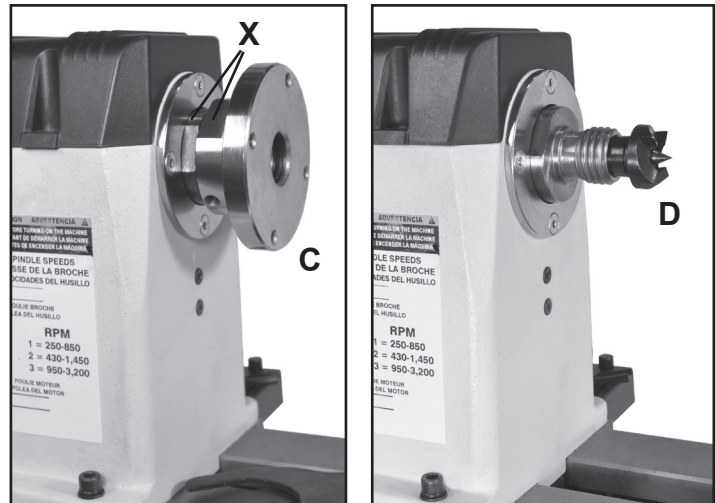

FIG. 2
3. **HEADSTOCK FACEPLATE:** Faceplates (#3B, FIG. 2, C) are used for turning bowls and plates. The screw holes in the plate are for mounting the workpiece for turning.
- To remove the faceplate, loosen the set screws. Use the supplied 38mm Wrench on the flat portion of the spindle (FIG. 2, X) and the 46mm Wrench on flats of the faceplate's rear hub, then loosen the faceplate from the spindle. Rotate the faceplate counter-clockwise to fully remove it from the spindle.
4. **HEADSTOCK SPUR CENTER:** The Spur Center (#1B, FIG. 2, D) is used for turning between centers. It fits into the spindle. Both the spindle and spur center have matching MT-2 tapers. The spur center can be removed from the spindle with the long Knockout Bar (K) inserted through the outboard left end of the spindle. **NOTE:** Be careful and hold the spur center during this process so it does not fly out onto the floor. A short Knockout Bar (L) is supplied to remove the Spur Center's Center Point, if it needs replacing.